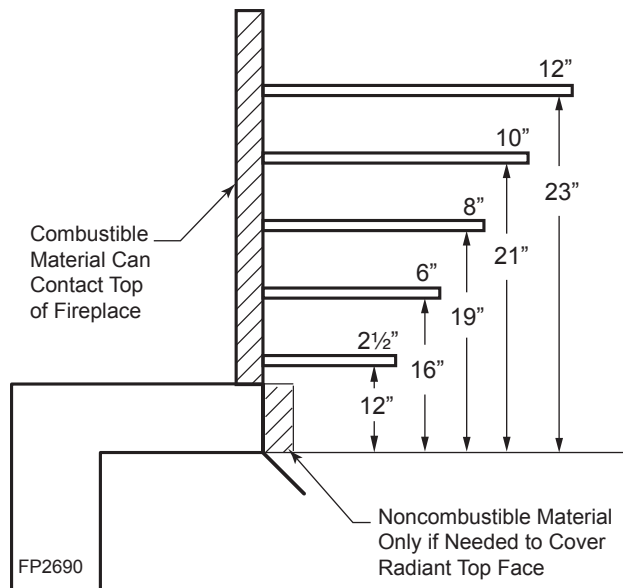

Figure 5 - Mantel Clearances
- Mantel clearances:** The canopy supplied with the unit must be installed. If a combustible mantel is installed, it must meet the clearance requirements as shown in *Figure 5*. However, if lower mantel height is desired, refer to Page 14, *Figure 6*.